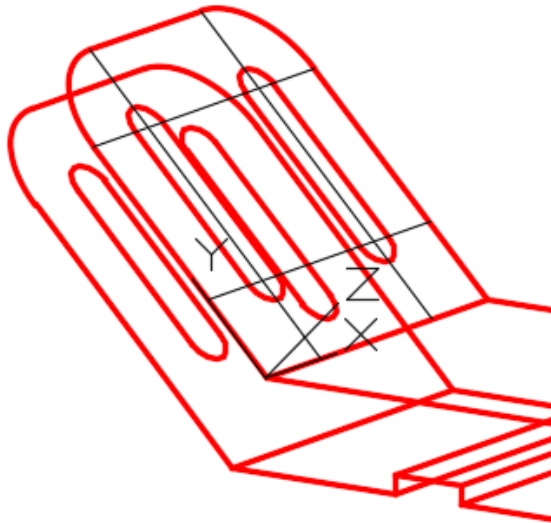

Figure Step 14
Step 14 Using the OFFSET command, offset the existing lines to locate the center of the slots on the upper inclined plane. Change the offset lines to layer: Construction. Draw the slots and copy them 25 units to the bottom of the inclined plane. (Figure Step 14)